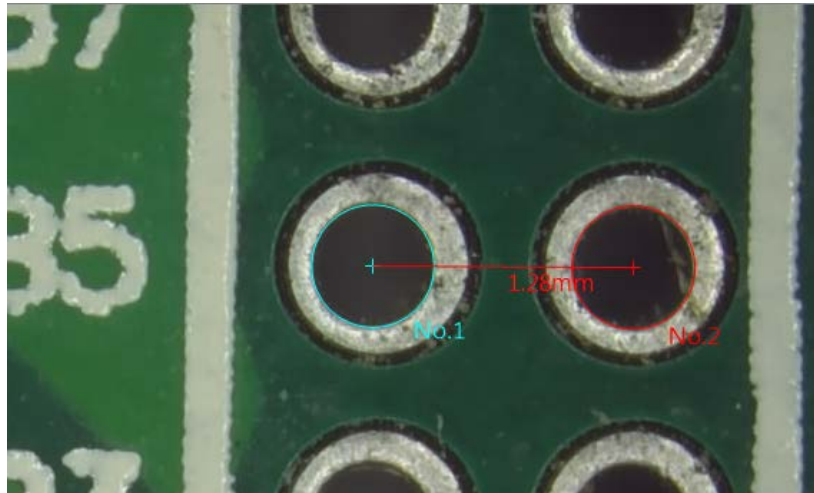

Fig 5-13 Two Center Distance
- Two Center Distance  : This function will auto-calculate the distance from two circle's center. Two Circles is required to draw on same page. See Fig 5-13.